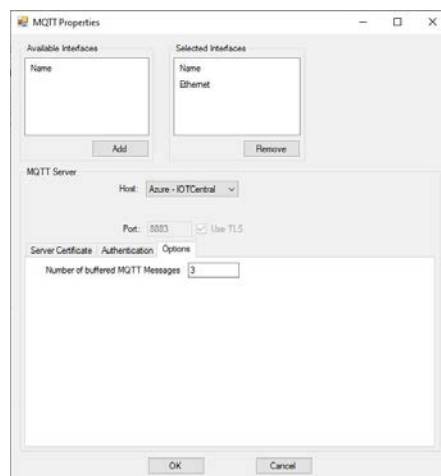

Figure 28-5C
d. Options Tab. Refer to Figure 28-5C.